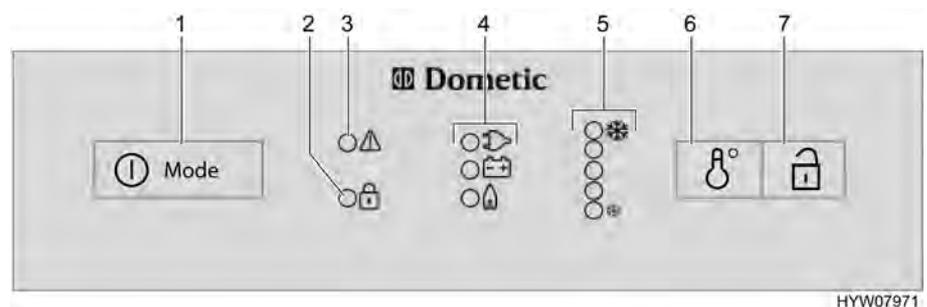

Fig. 191 Operating controls for the refrigerator (Dometic 8 series with MES)
- Press the on/off switch/energy selector switch (Fig. 191,1) down for 2 seconds in order to switch on the appliance. The LED of the operating mode chosen most recently lights up.
- If appropriate press the on/off switch/energy selector switch (Fig. 191,1) until the gas operating indicator "🔥" lights up. Gas supply is open. Ignition will take place automatically. A ticking sound can be heard until ignition has been completed successfully.
- Use switch (Fig. 191,6) to adjust refrigerating temperature.
- If appropriate press the on/off switch/energy selector switch (Fig. 191,1) several times until the operating indicator 230 V "⚡" lights up.
- If appropriate press the on/off switch/energy selector switch (Fig. 191,1) several times until the operating indicator 12 V "🔋" lights up.